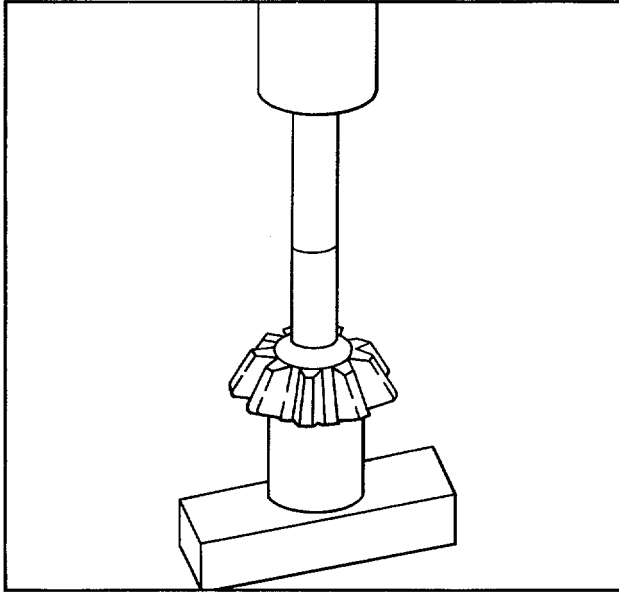

Figure 11.
d. Use bar to press burnishing ball through bushing (refer to Fig. 11).